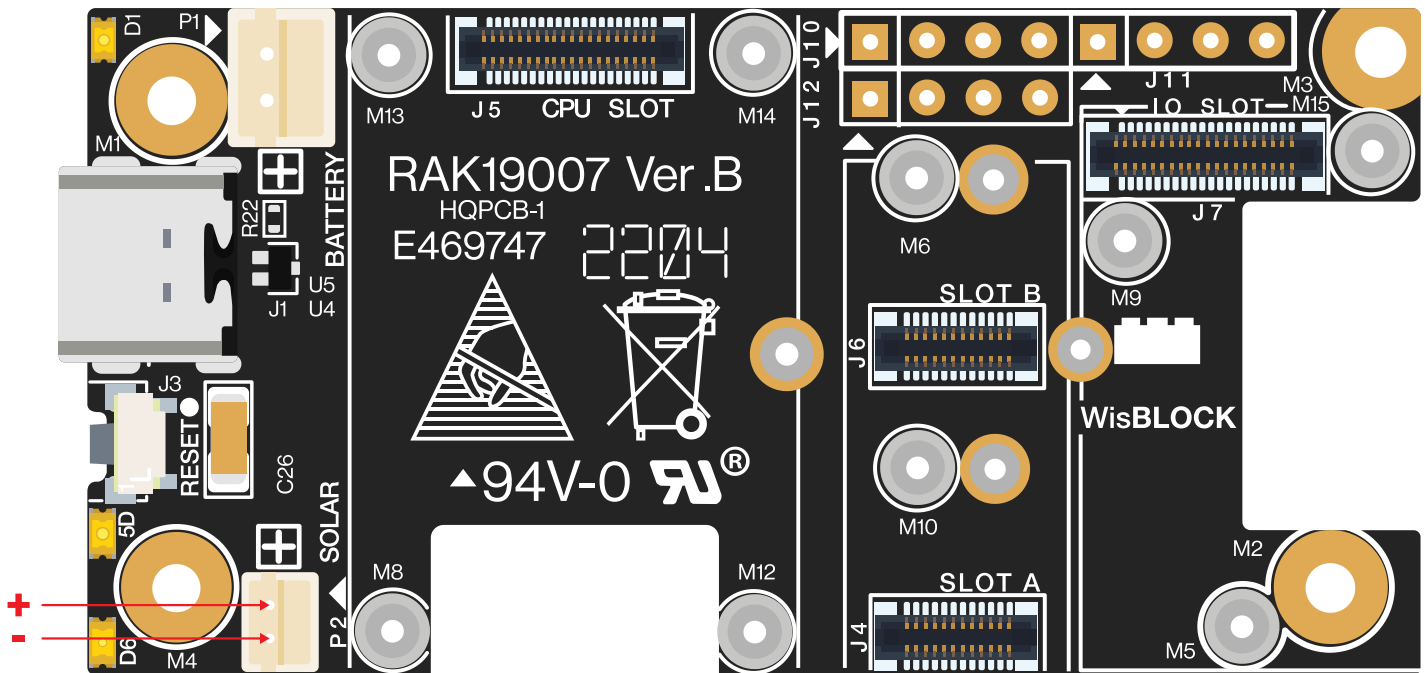

Figure 8: Solar panel connector V+ and V- Order
**Figure 8** shows the solar panel connector V+(Vin) and V-(GND)